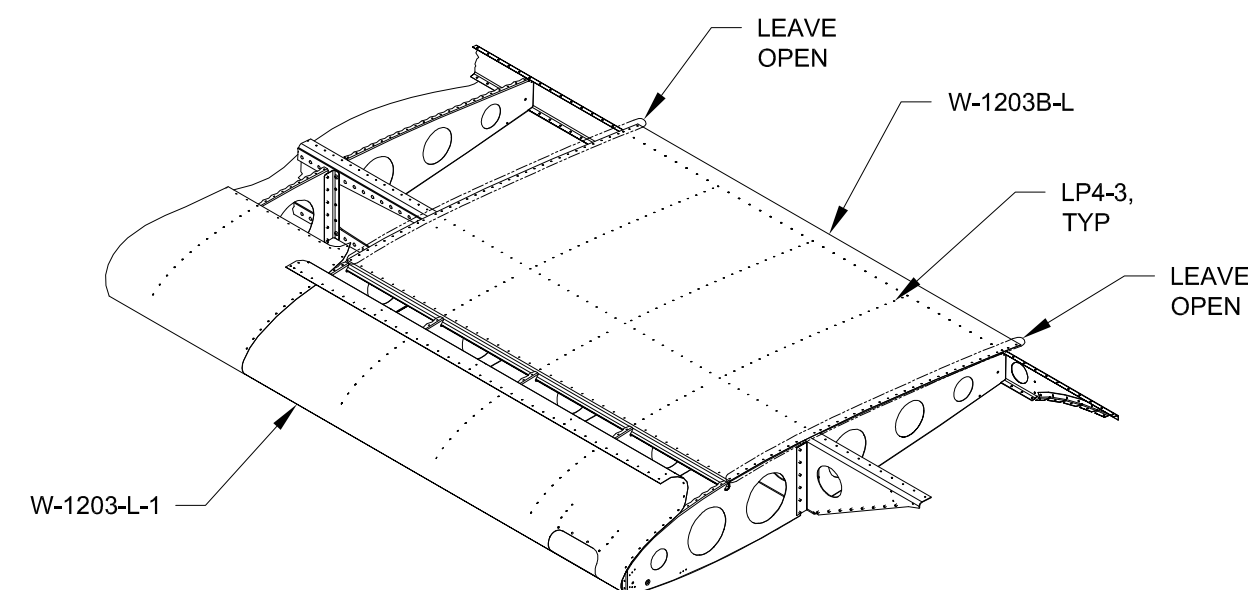

FIGURE 4: OUTBD UPPER WING SKIN INSTALLATION
Step 6: Cleco the W-1203B-L Outbd Upper Wing Skin to the wing skeleton as shown in Figure 4. Rivet the outbd upper wing skin to the skeleton leaving holes open as shown in Figure 4.